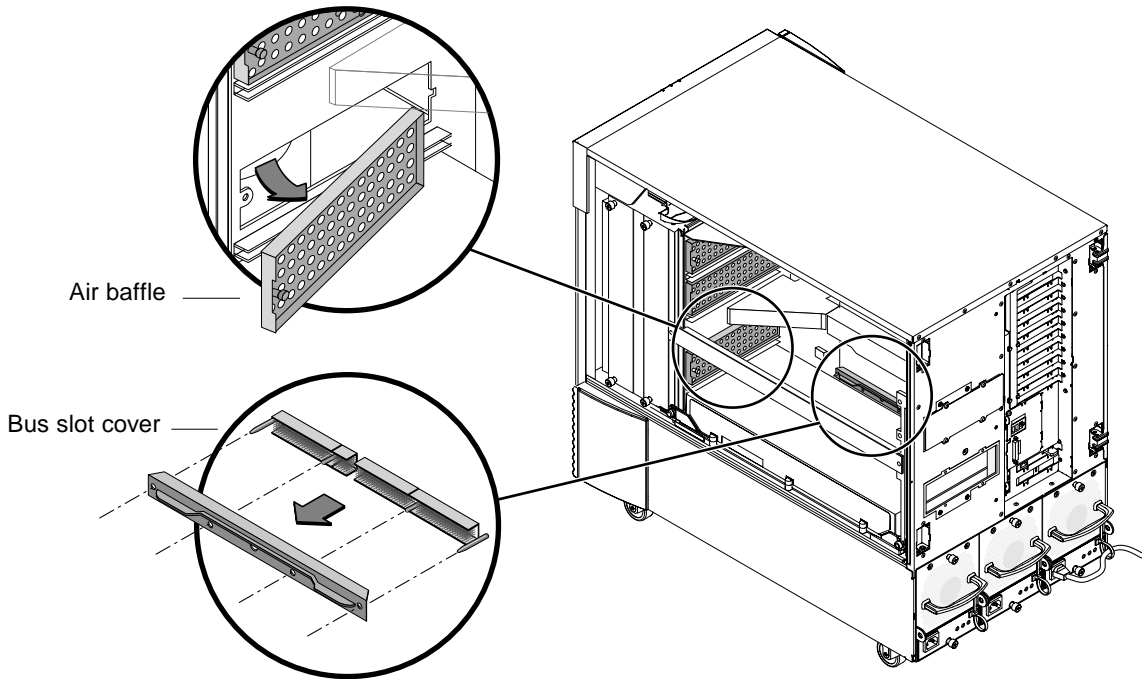

FIGURE 4-4 Removing the Sun Fire V880z Motherboard Bus Slot Cover From Slot B
5. Locate slots B and C (FIGURE 4-4).
6. Remove the air baffle from the CPU bracket and remove the dust cover from the motherboard VHDM connector (slot B for one Sun XVR-4000 graphics accelerator, slots B and C for two graphics accelerators). (FIGURE 4-4).